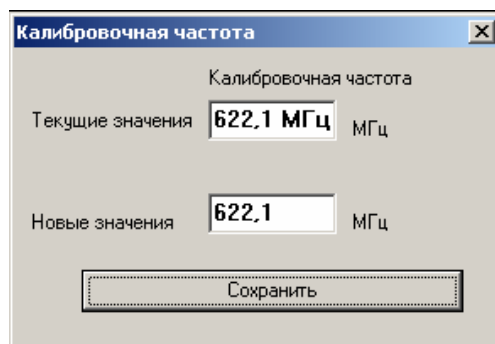

Fig. 8
*Method 2.* Direct frequency value entering (accurate within tenths of MHz). For this select “Setup|Calibration frequency...” menu item. Enter in the appeared box (Fig. 8) a desired value obtained based on frequency measured by the moisture meter, rated value of this parameter or a value determined by any other method (e.g. if sensor resonant frequency is beyond the moisture meter tuning range).